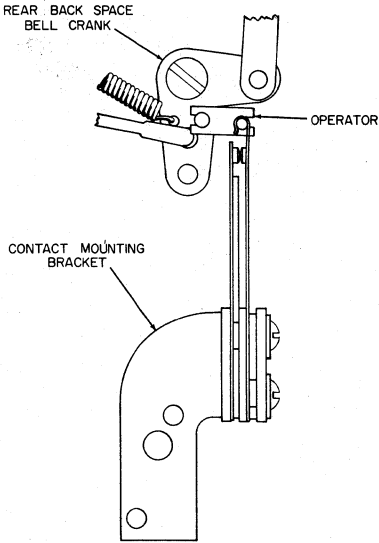

Figure 54 Back Space Contacts
B. Check the back space operating link for freedom of movement and form it if necessary. Connect it to the rear back space bell crank hole closest to the pivot point and adjust its length to cause the angle formed between its other arm and the long back space link to be slightly less than 90° (Figure 54).
BACK SPACE CONTACTS (Figure 54)
CHANGE: Page 1-26, BACK SPACE CONTACTS (Figure 54)